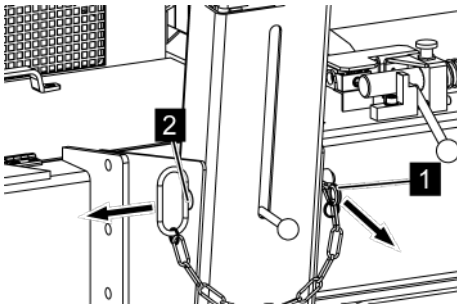

Fig. 99: Fastening bolts
2. ➤ Pull the spring cotter pin (Fig. 99/1) out of the fastening bolts (Fig. 99/2).
3. ➤ Pull out the fastening bolts (Fig. 99/2).